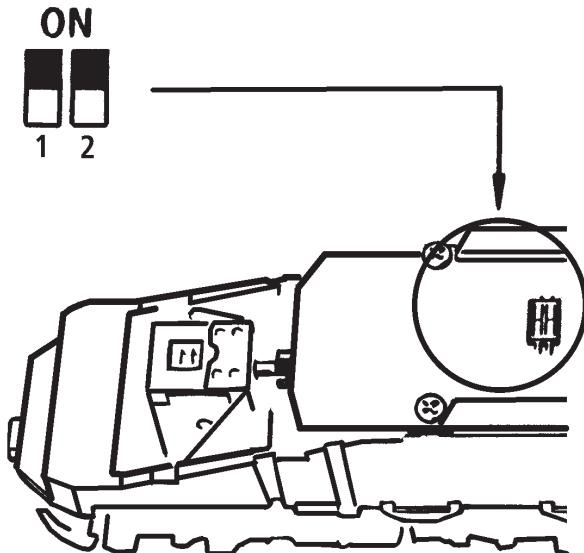

Fig. 7
3. Change of traction tyre: Remove the gear cover (fig. 7). Take out **wheel set** and remove **traction tyre** using a pin or a fine screwdriver (fig. 9). When pressing on the new traction tyre please **avoid twisting it**.
se } Fig.7